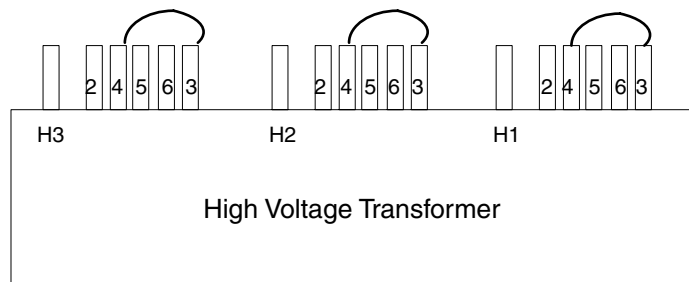

Figure 5-3 PDU Tap Positions (Rear)
- 4.) After you determine the nearest nominal line, verify the tap connections match. Refer to Table 5-1 and Figure 5-3 for tap locations.